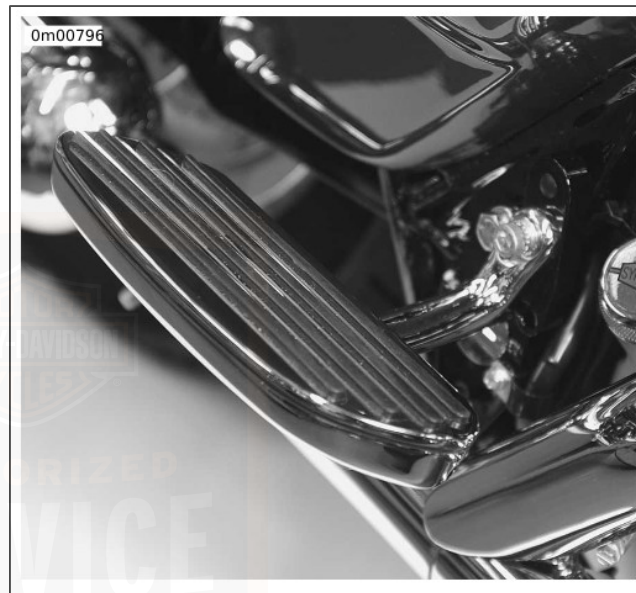

Figure 19. Passenger Footboards: FLHTCUSE
1. See Figure 19. Remove socket screw with lockwasher to remove footboard bracket from rear swingarm bracket.